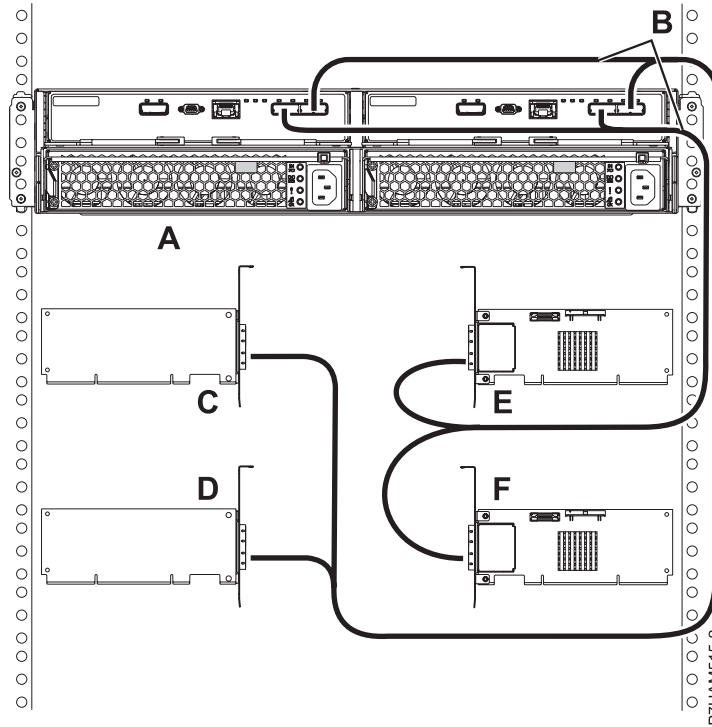

Figure 43. Mode 4 connection of one 58/87 disk drive enclosure by using X cables to four independent SAS adapters
17. Perform the mode 4 connection of one 58/87 disk drive enclosure (A) by using X cables (B) to four independent SAS adapters as shown in Figure 43 on page 74.